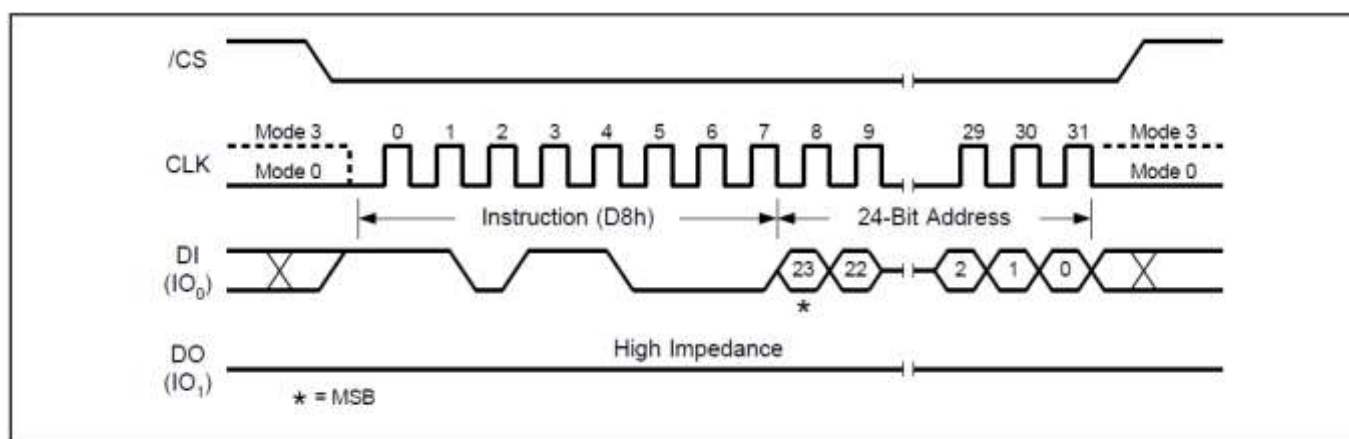

Figure18. 64KB Block Erase Sequence Diagram
The Chip Erase command sequence: CS# goes low → sending Chip Erase command → CS# goes high. The command sequence is shown in Figure18. CS# must be driven high after the eighth bit of the command code has been latched in; otherwise the Chip Erase command is not executed. As soon as CS# is driven high, the self-timed Chip Erase cycle (whose duration is Tce) is initiated. While the Chip Erase cycle is in progress, the Status Register may be read to check the value of the Write in Progress (BUSY) bit. The Write in Progress (BUSY) bit is 1 during the self-timed Chip Erase cycle, and is 0 when it is completed. At some unspecified time before the cycle is completed, the Write Enable Latch (WEL) bit is reset. The Chip Erase (CE) command is executed, if the Block Protect (BP2, BP1, and BP0) bits are 0 and CMP=0 or the Block Protect (BP2, BP1, and BP0) bits are 1 and CMP=1.